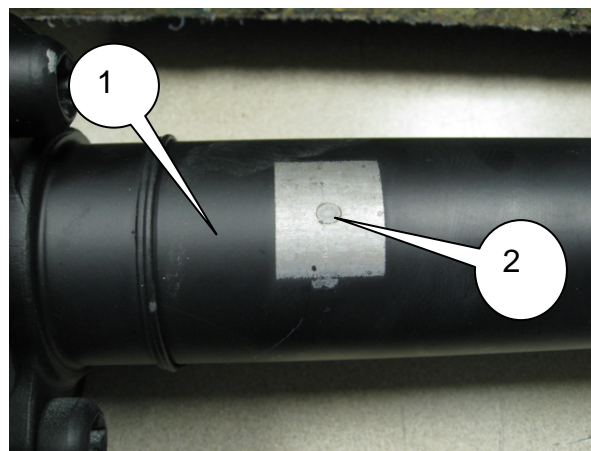

Figure 2
3. If a bare metal area is found as shown (Fig 2), proceed to step 8 “Replacing the Propeller Shaft Assembly.” If not proceed to the next step.
4. If no balance weight exists and there is **no bare metal** as shown (Fig 2), the inspection process is complete and it **WILL NOT** be necessary to replace the propeller shaft.